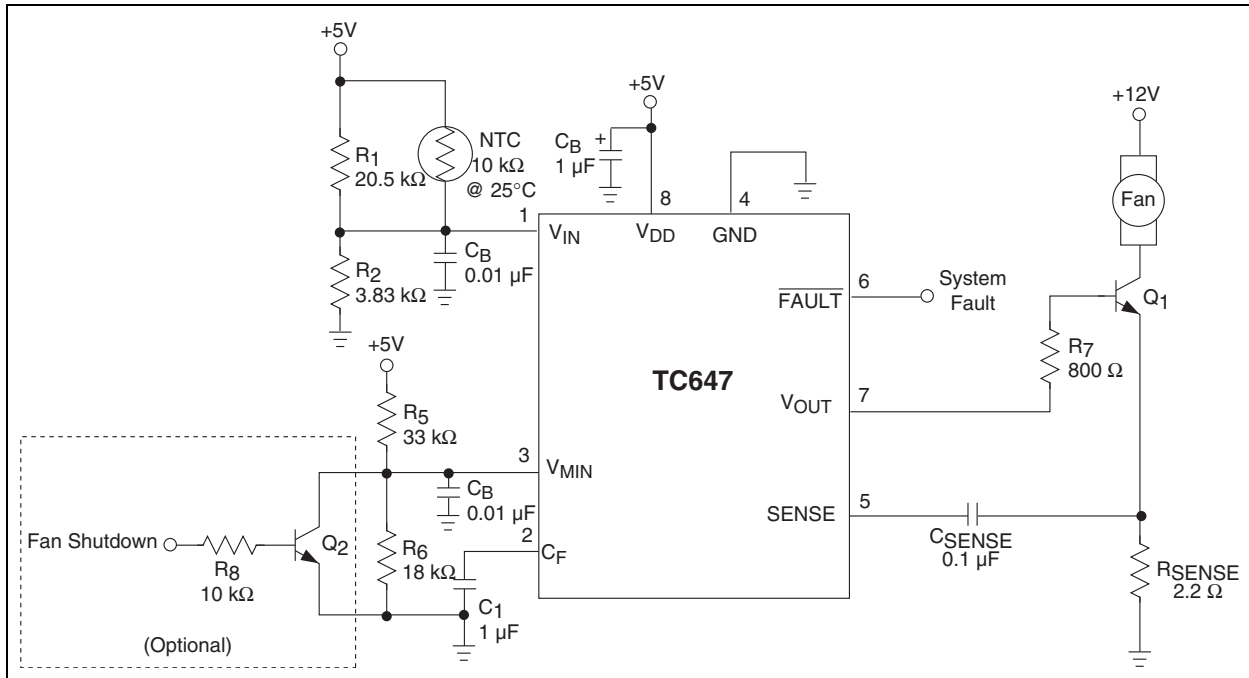

FIGURE 5-9: Design Example.
- Step 1.** Calculate R_1 and R_2 based on using an NTC having a resistance of 10 k Ω at T_{MIN} (25°C) and 4.65 k Ω at T_{MAX} (45°C) (see Figure 5-9).